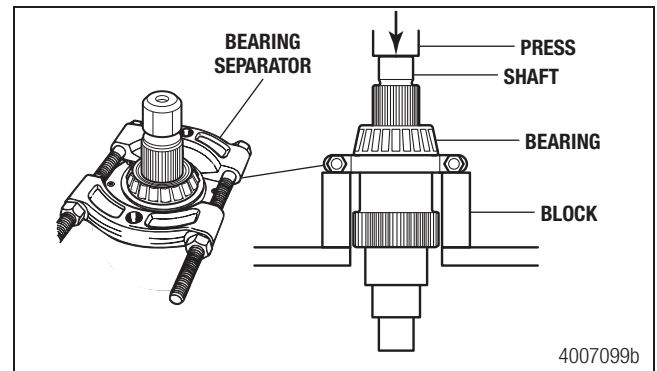

Figure 5.25
6. Install a bearing separator or other suitable tool below the forward roller bearing. Figure 5.25.
7. Install the output shaft assembly into a press and support it correctly. Figure 5.25.